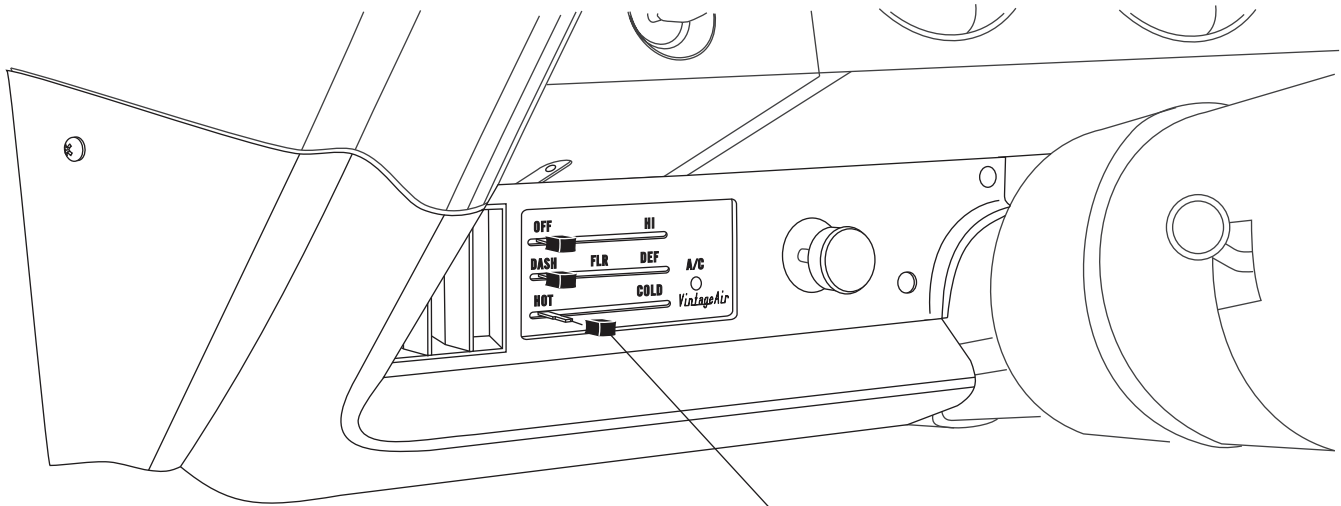

Figure 3
1. Install (3) knobs as shown in Figure 3, below.